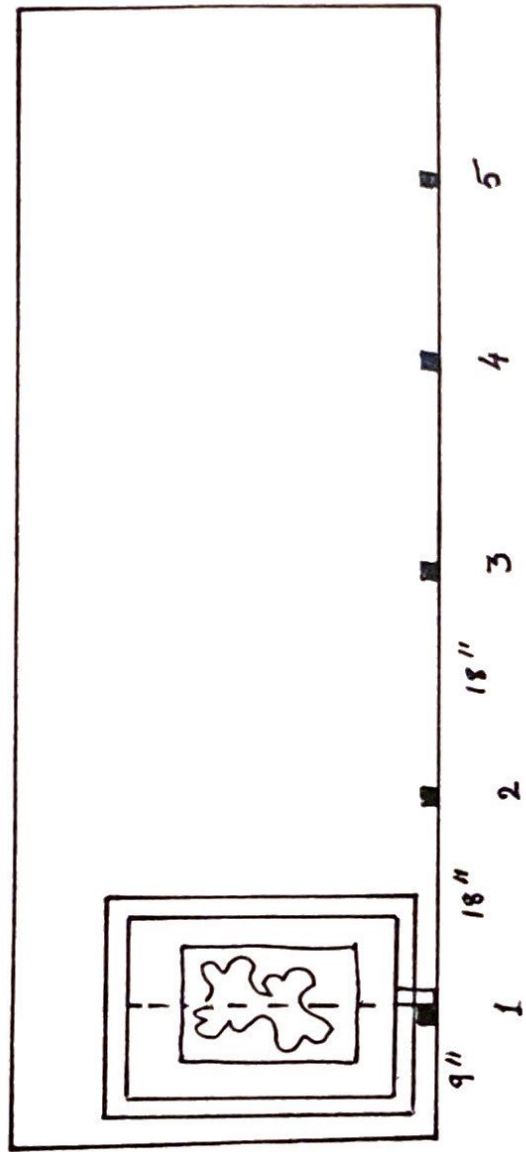

Fig.26
- 4) From this point measure spaces 18 inches apart and nail blocks of wood all along the length of the bed(see fig.26)